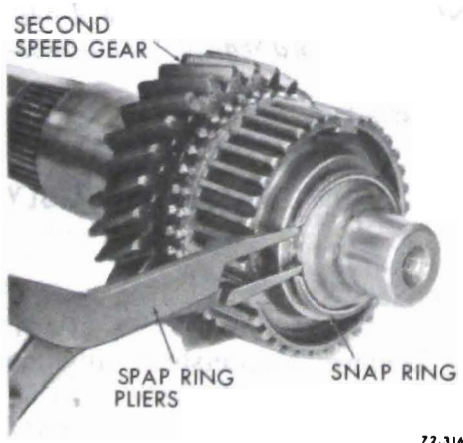

Figure 72-316 Installing Second-Third-Speed Synchronizer Snap Ring
3. Install second-speed blocker ring, with clutching teeth upward, over the synchronizing surface of the second speed gear. See Figure 72-316.
4. Install second-third speed synchronizer snap ring. See Figure 72-316.